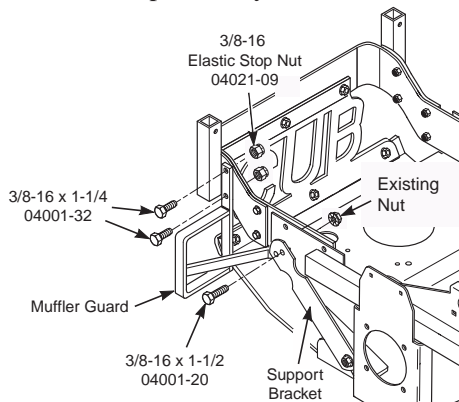

FIGURE 3-5
12. Remove the upper hex head bolt and serrated flange nut securing the support bracket to the frame of the machine. Retain the serrated flange nut for re-use. Install the muffler guard as shown and assemble to the frame of the machine by installing two (2) 3/8-16 x 1-1/4" hex head bolts through the rear holes in the RH hopper mounting bracket and secure with two (2) 3/8-16 elastic stop nuts provided. See Figure 3-5. Install the front mounting tab of the muffler guard between the support bracket and the frame of the machine. Secure with the 3/8-16 x 1-1/2" hex head bolt supplied with this catcher and the serrated flange nut removed previously.